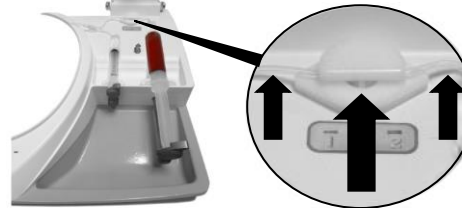

Figure 8. Stretch syringe 2 tubing and slide into pinch valve.
22. Gently stretch the tubing attached to syringe 2 and slide it completely into pinch valve opening (see Figure 8).